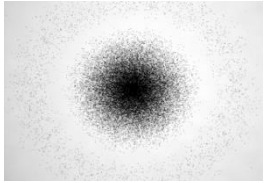

Figure 1. Microscope image (above) and AFM profile (below) of a micro dot patterned mask for JWST NIRC2 coronagraph
- Micro dot patterned mask for JWST (Fig 1)